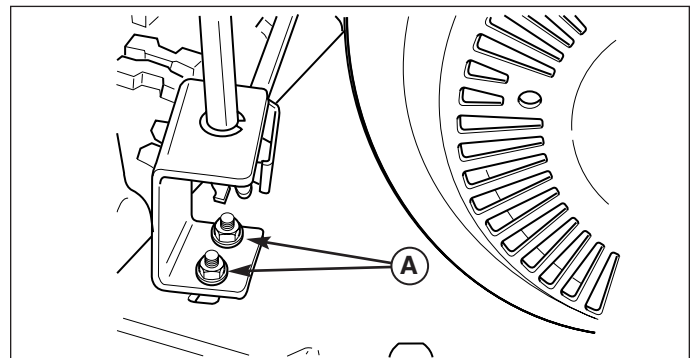

Figure 18. Gear Bracket Adjustment
1. Loosen the gear bracket mounting nuts (Figure 18).